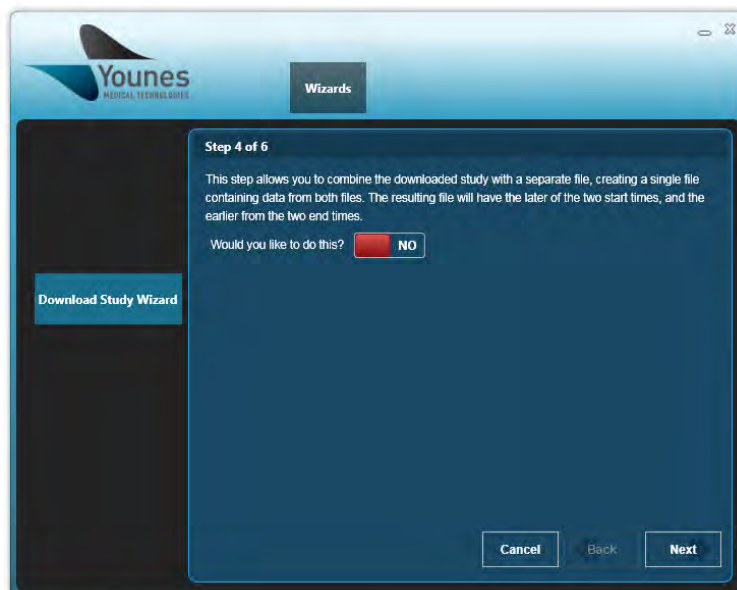

Figure 77 – Windows PC Prodigy Application Don't Combine Studies Screen (Download Study Wizard)
9. Once the study has finished downloading, you will be asked if you want to combine the downloaded study with a separate file, as shown in Figure 77.